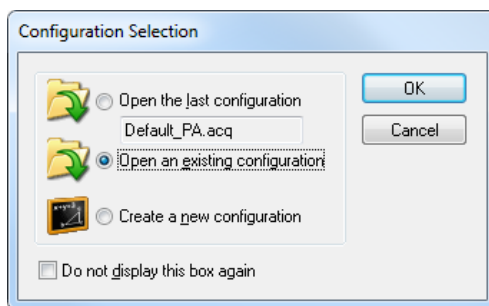

Figure 1-24 The Configuration Selection dialog box
7. In the **Configuration Selection** dialog box that appears (see Figure 1-24 on page 44), select one of the following setup loading options, and then click **OK**.